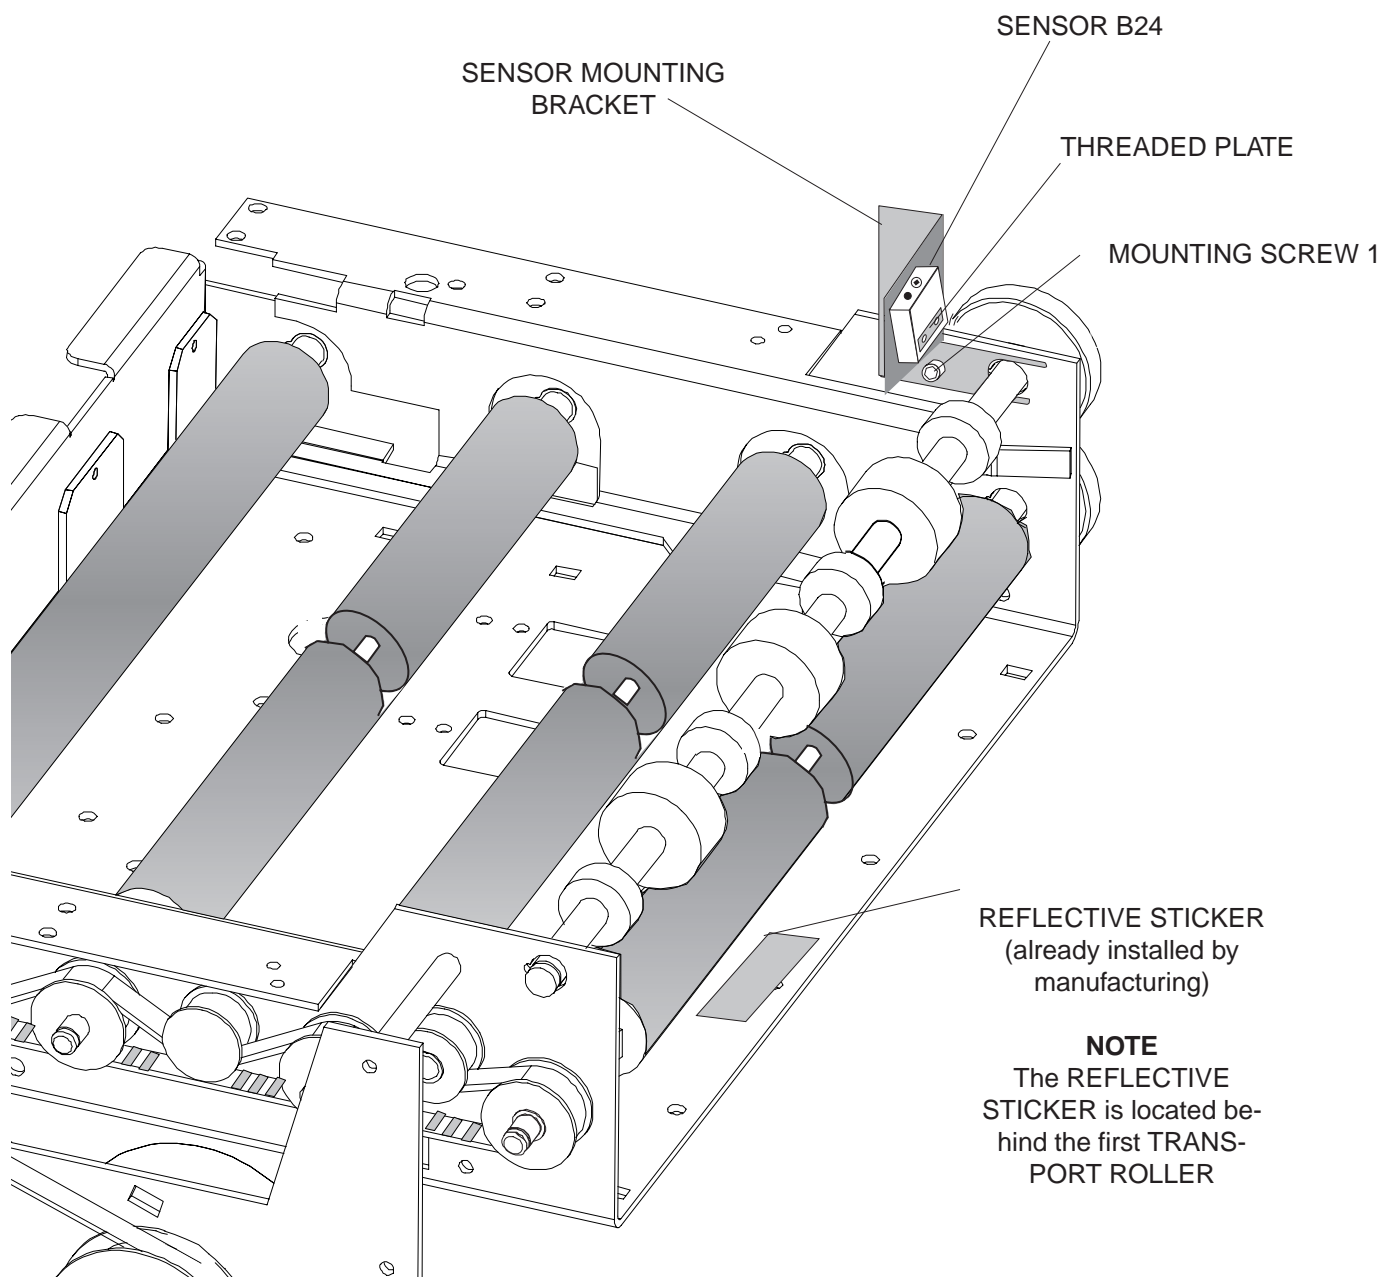

figure 1-1
4. Take out MOUNTING SCREW 1. See figure 1-1.
5. Engage the SENSOR MOUNTING BRACKET with the SHAFT. and fix it with MOUNTING SCREW 1. See figure 1-1.